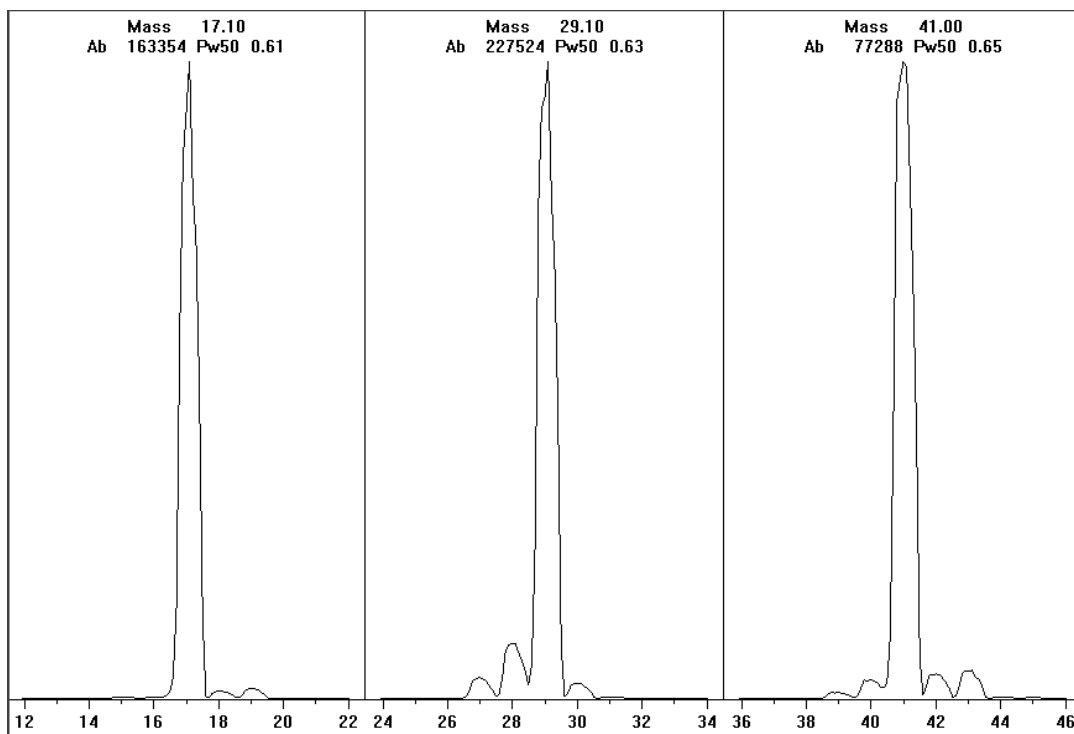

Figure 51. Reagent ion scans after a very long bake out
- 8 Examine the displayed profile scan of the reagent ions. (See Figure 51.)